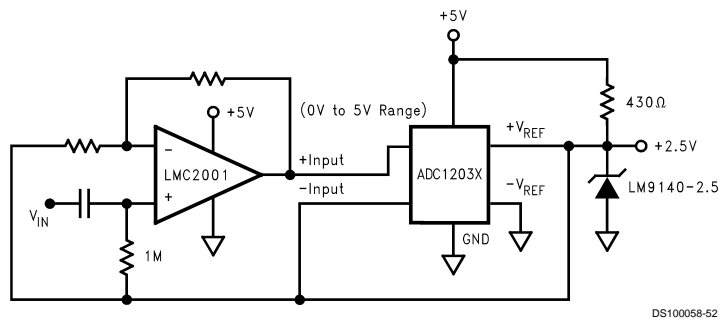

FIGURE 7.
The LMC2001 is a great choice for an amplifier stage immediately before the input of an A/D converter (AC or DC coupled) see Figure 7 and Figure 8 because of the following important characteristics:
e) Rail-to-Rail output swing maximized the ADC dynamic range in 5V single supply converter applications. Below are some typical block diagrams showing the LMC2001 used as an ADC amplifier (Figure 7 and Figure 8).